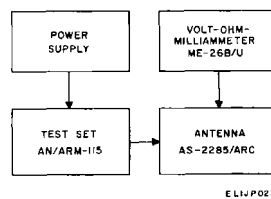

Figure 5-4. Test connections, power supply test.
- (1) Test Set, Antenna AN/ARM-115.
- (2) Multimeter ME-26B/U.
- (3) Power Supply.
b. Test Connections and Conditions. Connect the equipment as shown in figure 5-4. Turn on equipment and allow 5-minute warmup before proceeding.